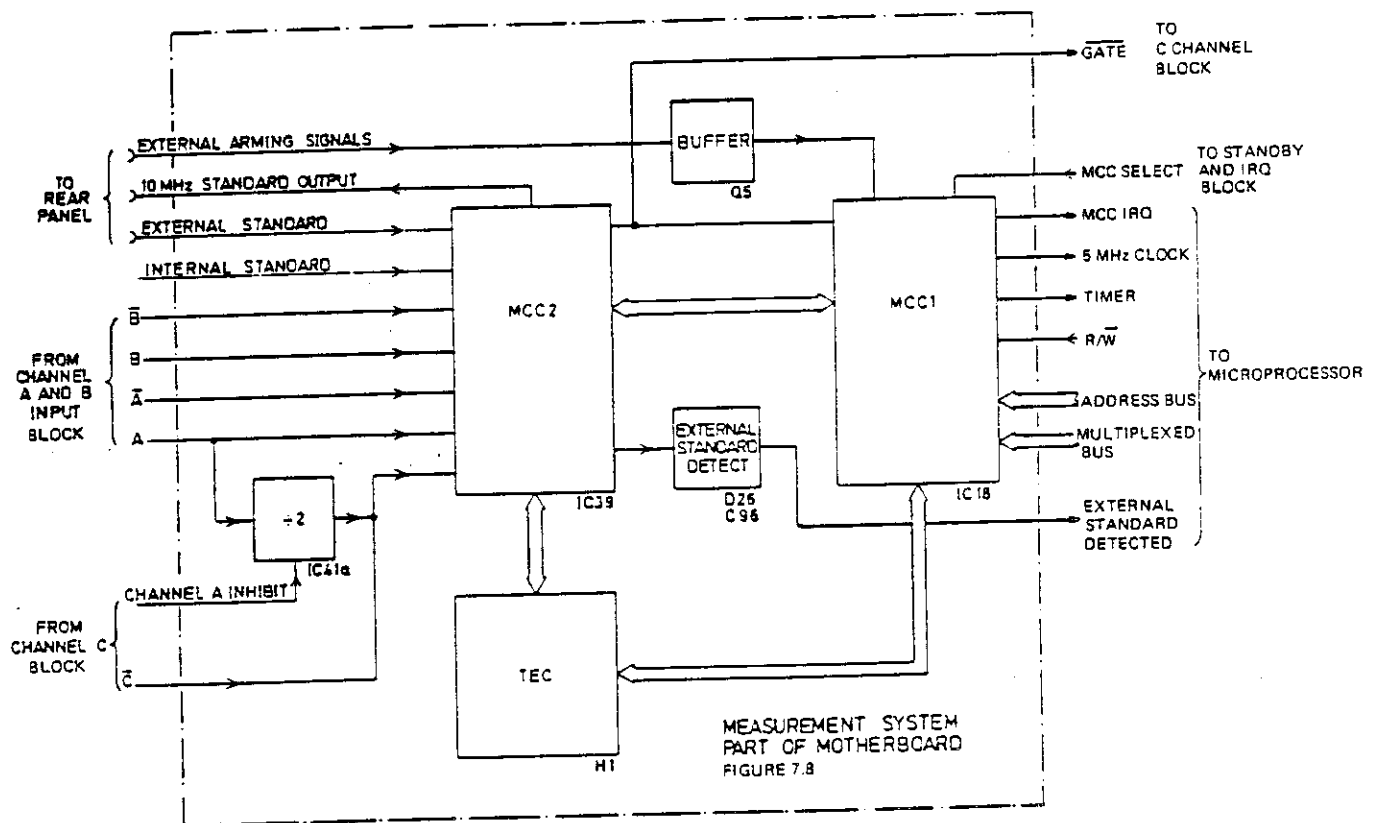

Figure 5.4 - Measurement - Block Diagram
5.3.3.1.1 The measurement circuits of the instrument are provided by three custom-built integrated circuits. These are the two Multiple Counter and Control (MCC) circuits, MCC1 and MCC2, and the Timing Error Correction (TEC) circuit. A block diagram is shown in Figure 5.4.